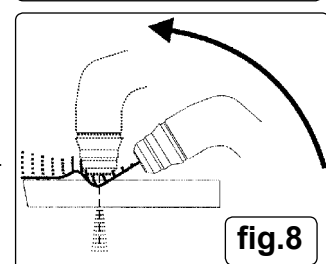

fig.8
- 6.3.1. Place the torch nozzle at an angle to the surface at the start-of-cut position (fig.8).